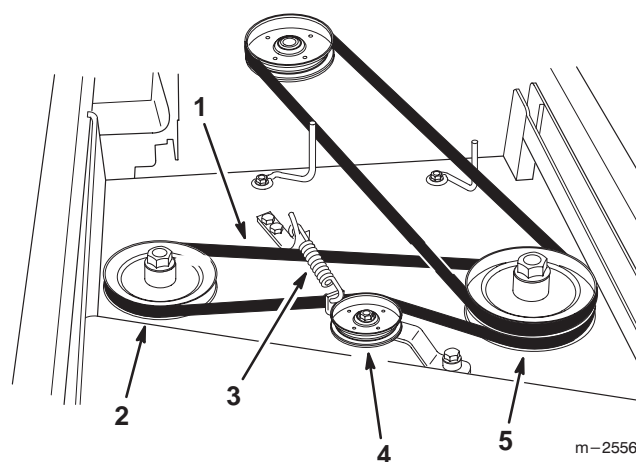

Figure 23
2. Grease the fittings on both spindle bearings (Fig. 23).
4. Disconnect the idler arm spring to relieve tension on the idler arm and idler pulley, then remove the worn deck belt (Fig. 23).
5. Install the new deck belt around the right spindle pulley, idler pulley, and in the lower groove of the left spindle pulley (Fig. 23).
6. Reconnect the idler arm spring (Fig. 23).